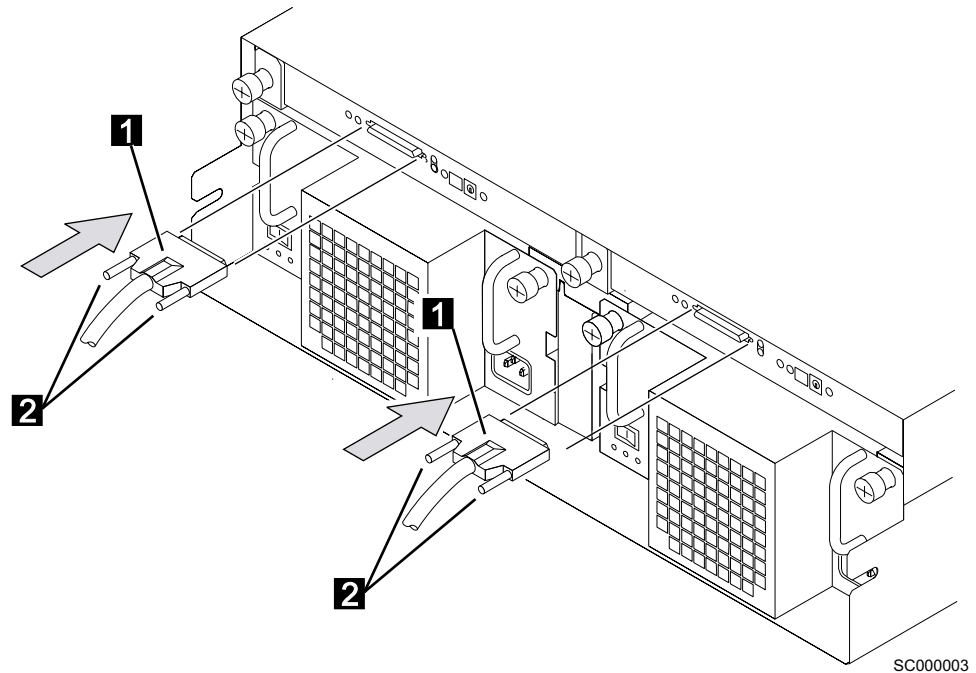

Figure 43. Plug in the SCSI signal cable
3. Plug the SCSI signal cables into the connectors **1** on the SCSI interface cards. See Figure 43.